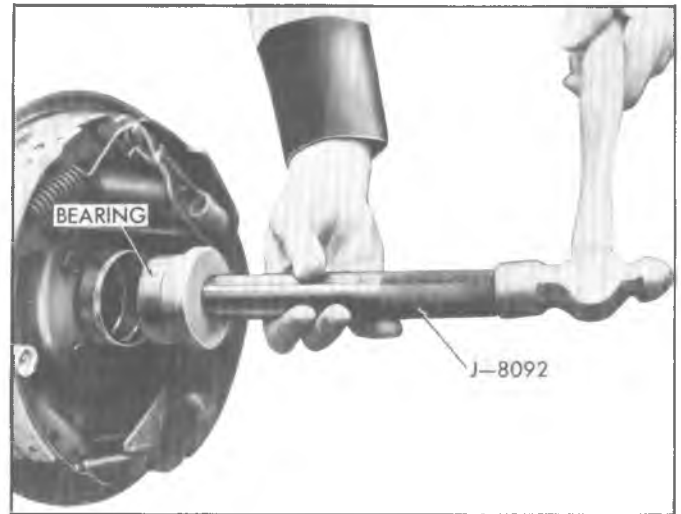

Fig. 54—Wheel Bearing Installation
5. To reinstall bearing, use J-23690 Installer. Install bearing until tool bottoms against tube as illustrated in figure 54.